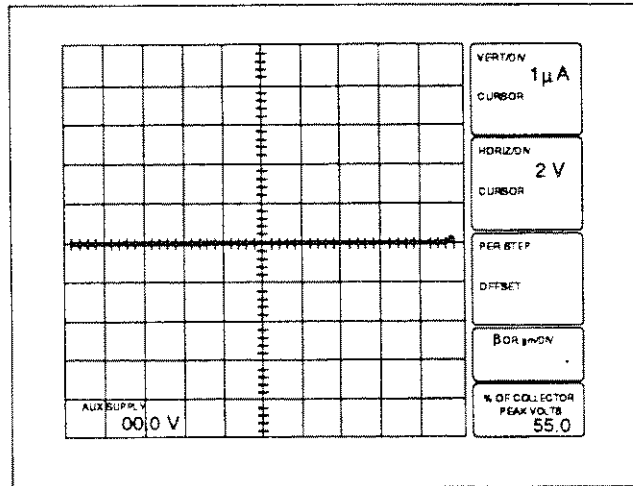

Figure 3-5. Adjustment of LOOPING COMPENSATION control.
18. Turn the VARIABLE COLLECTOR SUPPLY control to 100%, adjust the trace intensity for a visible display, and adjust the LOOPING COMPENSATION control for minimum trace width (see Figure 3-5). Use the TRACE ROTATION control to align the trace with the horizontal graticule line.